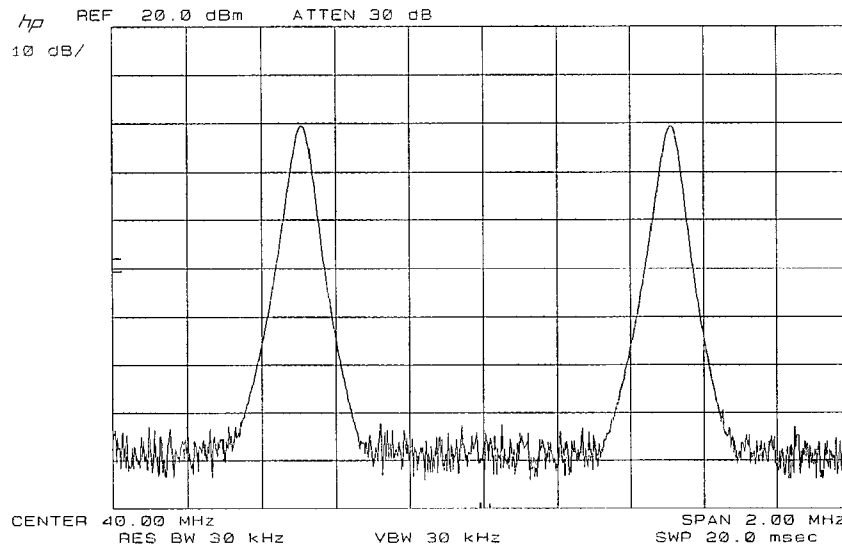

Figure 2-4. AM Two-Tone Test Signal
9. When the RF output signal is displayed on a spectrum analyzer, it should be as shown in Figure 2-4.